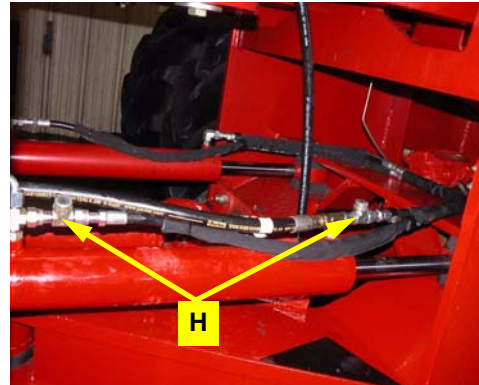

Figure 6b: Installed steering output run tees
- b. Install the run tees **H** at the steering lines at each end of the steering cylinder (Figure 6b).